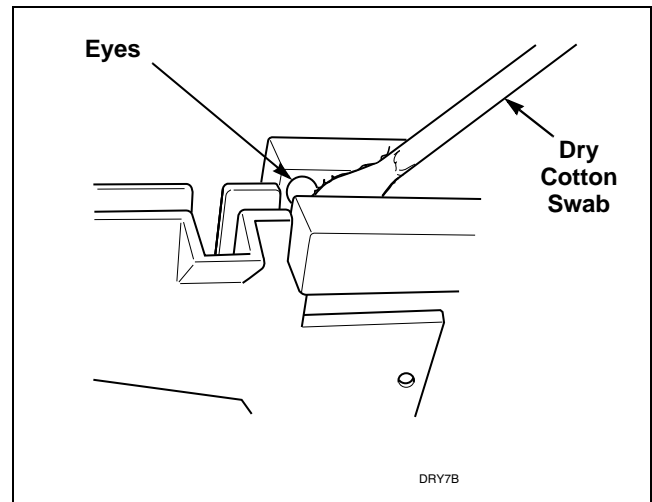

Figure 67
- j. Check coin drop sensor for dust or dirt on eyes. Wipe eyes with dry cotton swab. Refer to *Figure 67*.